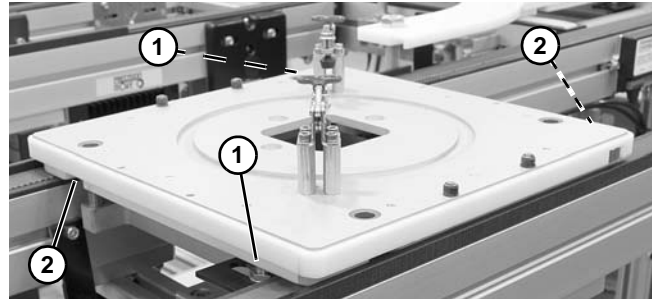

Figure 64
- Two bottom flags (Figure 64, item 1) can be used for sensing.
- Stop only has to be released long enough to clear pallet skirt that was stopped. Notches (Figure 64, item 2) in skirt allow stop to be reset before pallet clears stop area.